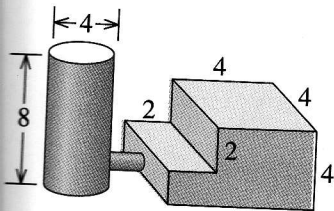

Figure 9-25 Step-block casting (for Problem 9-27).
- 9-27** Figure 9-25 shows a cylindrical riser attached to a casting. Compare the solidification times for each casting section and the riser and determine whether the riser will be effective.